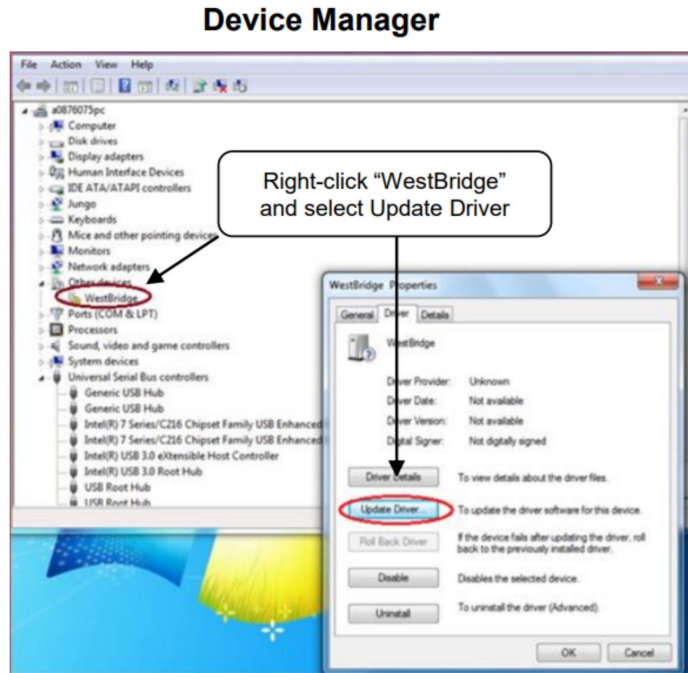
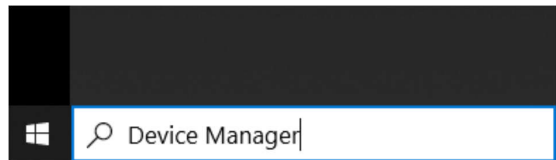

Figure 6-3. Open Device Manager
Figure 6-4. Update Driver With Device Manager
3. Open the Windows® Device Manager, as shown in Figure 6-3, and right-click on the *WestBridge* folder in the Device Manager window and select the *Update Driver* button (see Figure 6-4).